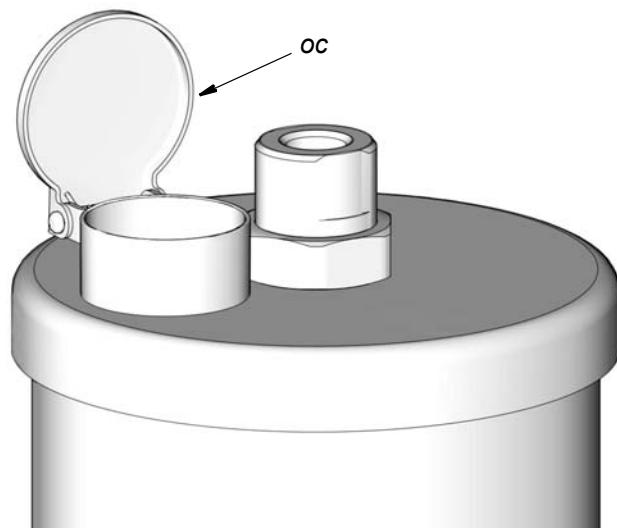

FIG. 4
**NOTE:** A strainer is installed at the oil fill cap (oc) to prevent contamination of the lubricant with foreign materials (FIG. 4).